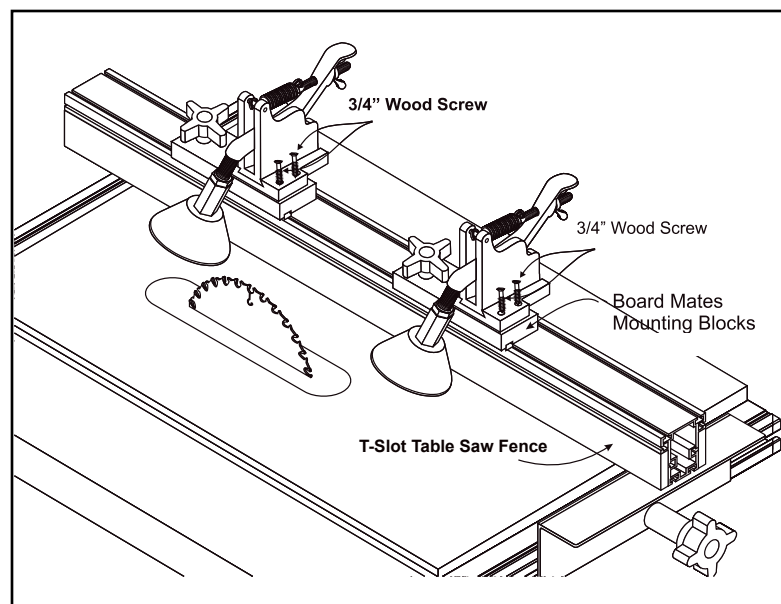

Figure 6
**Option 2 install your BOARD MATES using Board Mates Mounting Blocks (sold separately) on a table saw fence with 1/4" T-slots. Figure 6**
1. Install the Board Mates Mount blocks in the T-Slot closest to the blade side of the table saw fence. Figure 6